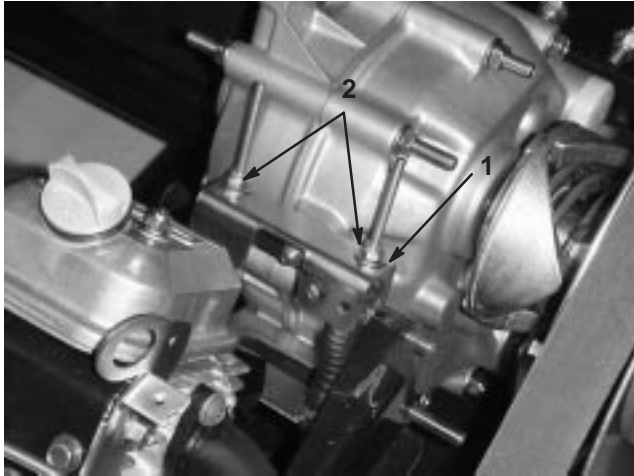

Figure 16
When performing routine maintenance and/or engine diagnostics, the transaxle must be shifted into neutral (Fig. 16). The vehicle has a neutral position on the shift lever, which controls the neutral in the transaxle. The following steps should be taken to make sure that the neutral shift lever operates the transaxle neutral correctly:
2. Set the neutral bracket on the transaxle to the neutral position (level), turn the drive clutch, and check to see if the vehicle rolls back and forth (Fig. 16).
3. Tighten one of the locknuts (Fig. 16) just enough to take the slack out of the shift cable.